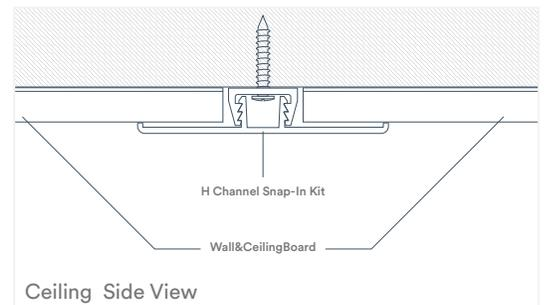

Fig. 8
3. If your ceiling is longer than your panel lengths, the panels must be joined in the middle using the H Channel Snap-In Kit (Fig. 8). Refer to the Joining Panels portion of the Trim Applications section of this document for details.